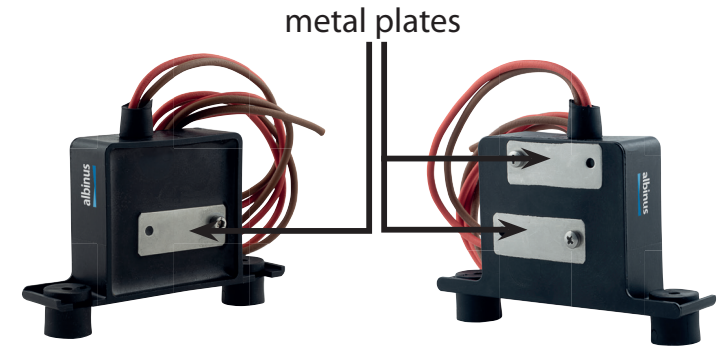

Figure 4
1. After installation of the Switch is complete, hold the testing spring (figure 3, included) over the raised 3 metal areas of the Switch (figure 4) for approximately 5 seconds. If the wiring is correct the bilge pump will activate.
- Clean the metal plates (figure 4)